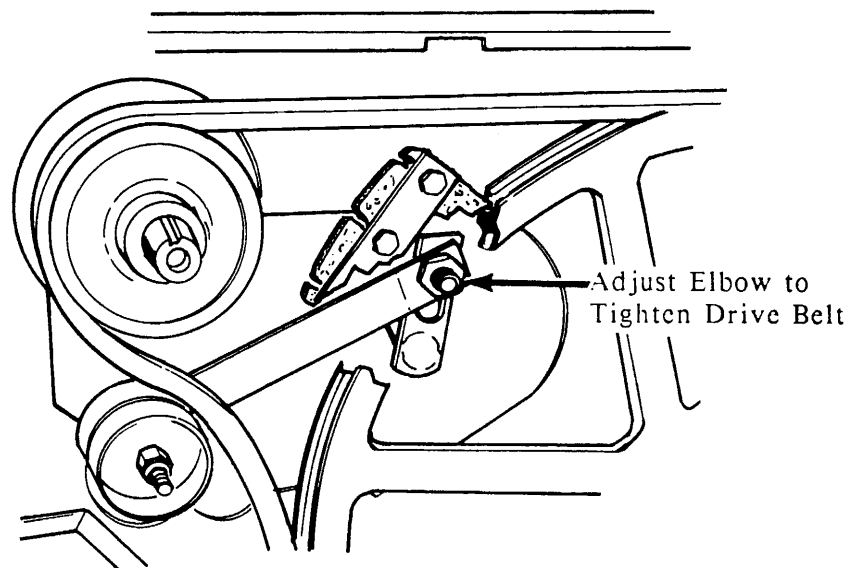

FIGURE 3
3. Check for excessive drive belt wear. If belt is too loose, adjust elbow connection of clutch lever linkage using the slotted hole (See Figure 3). Retighten nut and check belt tension. Readjust elbow if necessary.